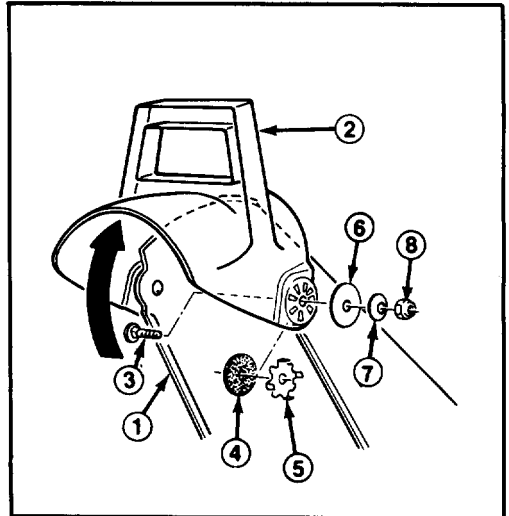

Figure 11
2. Secure left side of deflector to discharge chute using carriage bolt, rubber washer, friction plate, flat washer and locknut. Make sure rubber washer and friction plate are positioned between chute and deflector and friction plate tabs fit into holes in deflector. See Figure 11 for proper installation sequence of parts.